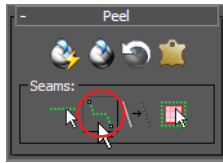

FIGURE 11.2
5. In the Peel rollout, click the Point-To-Point Seams button, as shown in Figure 11.2. This tool lets you reroute the seams to where you want them.